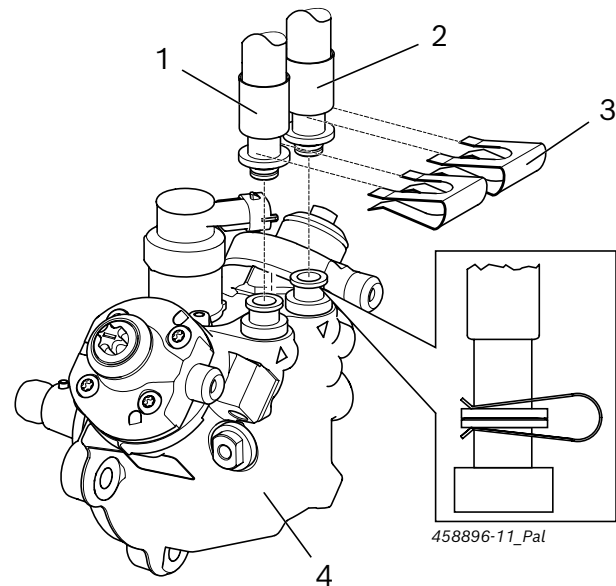

Fig. 3: CP4.2 with connector system
Use the pump-specific hose lines for the test oil connection of the CP4. The hose lines are affixed to the CP4 by means of the holding clamps 1 685 200 116 (Fig. 3, Item 3). The hose lines and the holding clamp are included in the scope of delivery of the parts set 1 687 016 125.
1. Connect the hose line for the test oil supply (Fig. 3, Item 1) to the supply connector of the CP4.
2. Connect the hose line for the test oil return (Fig. 3, Item 2) to the return connector of the CP4.
3. Affix both hose lines to the CP4 using the holding clamps (Fig. 3, Item 3).